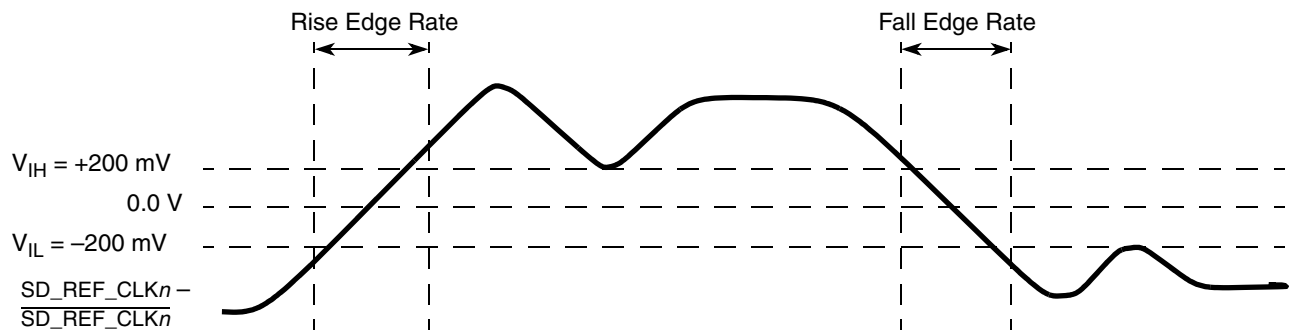

Figure 40. Differential measurement points for rise and fall time
- Measured from −200 mV to +200 mV on the differential waveform (derived from SD_REF_CLK n minus $\overline{\text{SD_REF_CLK}}_n$). The signal must be monotonic through the measurement region for rise and fall time. The 400 mV measurement window is centered on the differential zero crossing. See Figure 40.